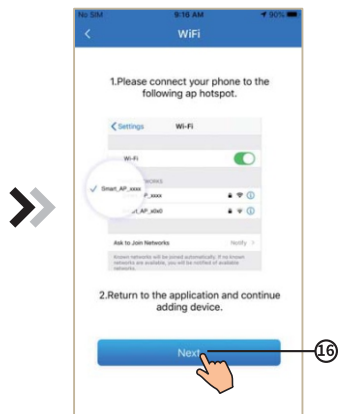
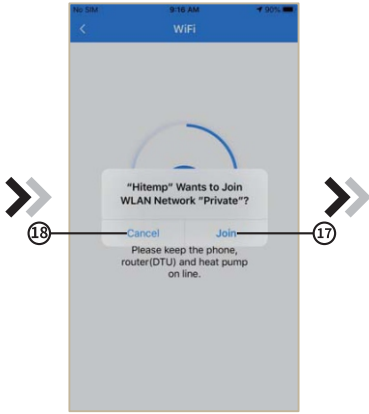
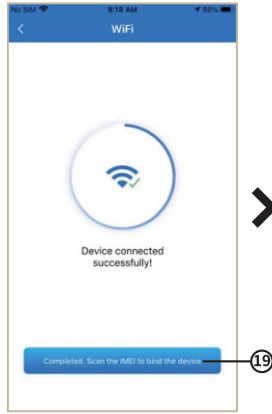

Fig.12 Connect specified WiFi
Fig.13 Configure Network interface
Fig.14 Bond Device interface
4. Slide the page back to configure network interface, click (16) to turn next page (Fig. 12), click (17) to join WLAN Network, click (18) to cancel (Fig. 13); click (19) to bond device (Fig. 14);